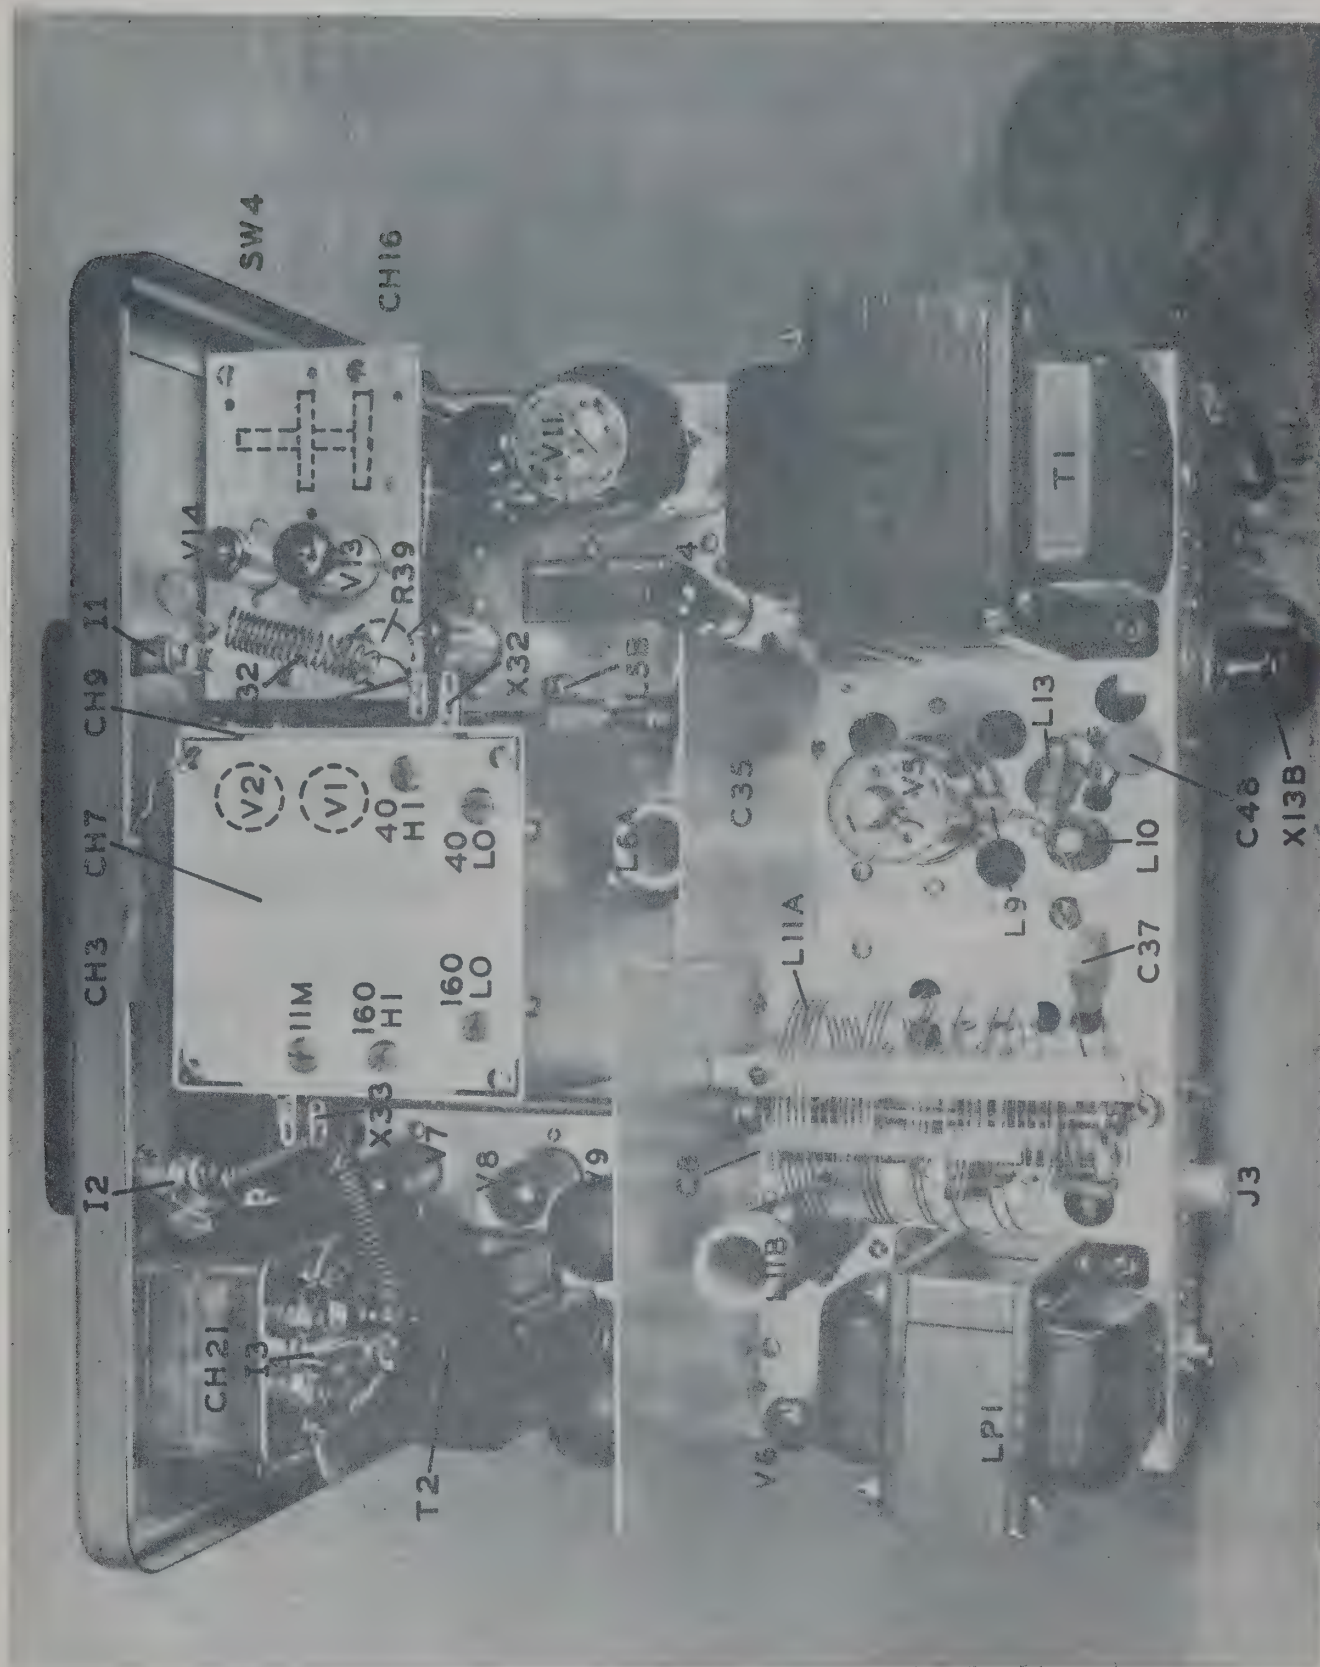

FIGURE 1 COMPLETED CHASSIS TOP VIEW.
- b. Attach the relay on the top side of the chassis between V3 and V⁴, shown in Figure 1, taking care to clear parts when drilling the mounting holes and a clearance hole for two insulated leads, in the chassis. Install a solder terminal at one of the mounting feet, on the topside of the chassis.